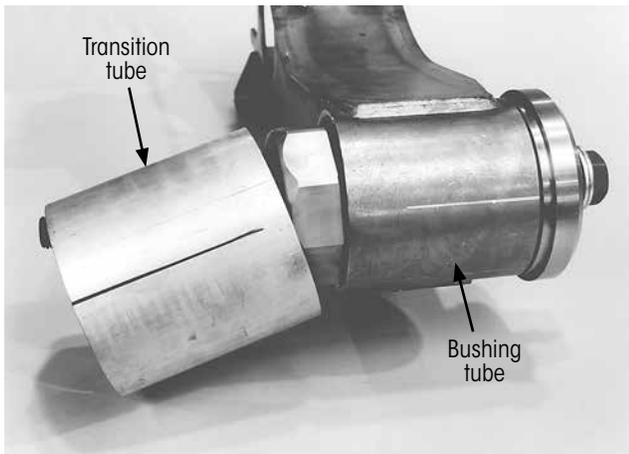

Figure 46: Continue to tighten hex head bolt after transition tube falls away
14. Continue to tighten until the hex head bolt almost stops turning. The transition tube will fall away before the bushing is fully seated in the bushing tube and the hex head bolt stops turning (Figure 46).